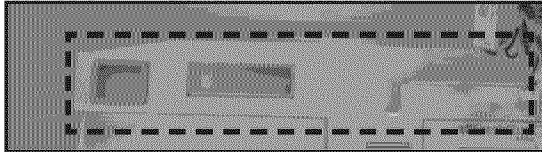

FIGURE 22
28. Peel remainder of paper backing off new gasket after positioning behind top of tower. See *Figure 22*.